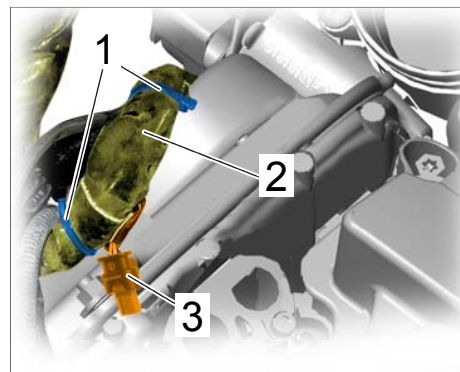

Figure 1
- 4.1 Remove tie-wrap ⇒ *Figure 1 -item 1-* on the main wire harness ⇒ *Figure 1 -item 2-* to allow better access to the hydraulic valve wires ⇒ *Figure 1 -item 3-*.